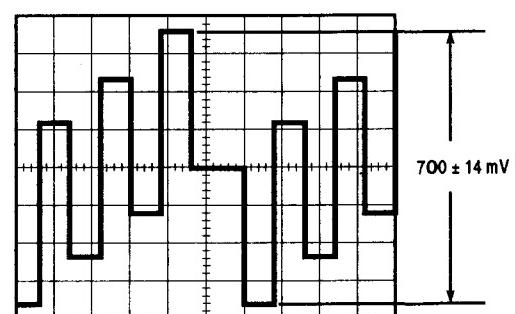

Fig. 5-1-15
- Adjust VR13 so that the PB Level becomes 700 ± 14 mV as shown in Fig. 5-1-15.